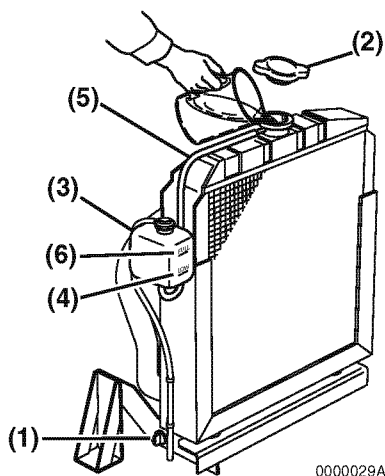
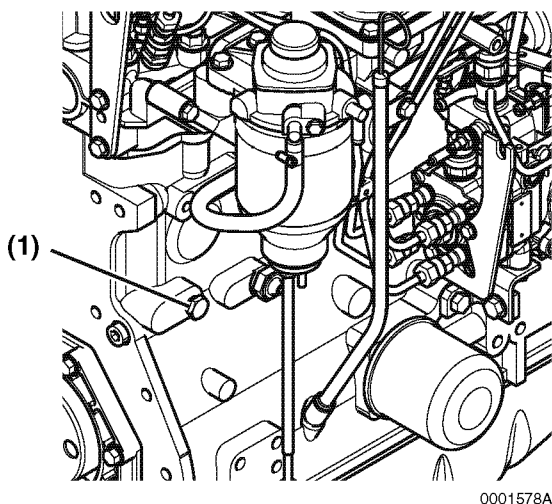

Figure 5
Figure 6
1. Check to be sure the radiator drain plug is installed and tightened or the drain cock (**Figure 5, (1)**) is closed. Also make sure the cylinder block drain plug (**Figure 6, (1)**) is installed and tightened.
2. Remove the radiator cap (**Figure 5, (2)**) by turning it counter-clockwise about 1/3 of a turn.
4. Reinstall the radiator cap (**Figure 5, (2)**). Align the tabs on the back side of the radiator cap with the notches on the engine coolant filler port. Press down and turn the cap clockwise about 1/3 of a turn.
5. Remove the cap of the reserve tank (**Figure 5, (3)**), and fill it to the LOW (COLD) mark (**Figure 5, (4)**) with engine coolant. Reinstall the cap.
6. Check the hose (**Figure 5, (5)**) that connects the reserve tank (**Figure 5, (3)**) to the radiator. Be sure it is securely connected and there are no cracks or damage. If the hose is damaged, engine coolant will leak out instead of going into the reserve tank.
7. Run the engine until it is at operating temperature. Check the level of engine coolant in the reserve tank. When the engine is running and the engine coolant is at normal temperature, the coolant level in the tank should be at the FULL (HOT) mark (**Figure 5, (6)**). If the engine coolant is not at the FULL (HOT) mark (**Figure 5, (6)**), add additional engine coolant to the reserve tank to bring the level to the FULL (HOT) mark.
1. Check the level of engine coolant in the reserve tank. When the engine is cold, the level in the tank should be at or slightly above the LOW (COLD) mark (**Figure 5, (4)**).